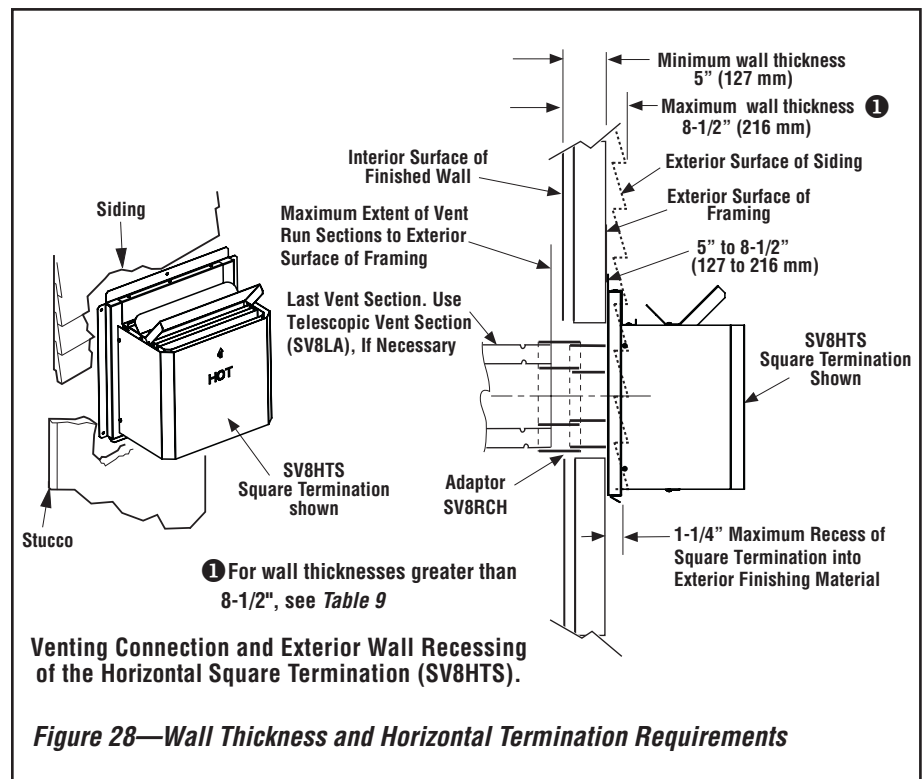

Figure 28—Wall Thickness and Horizontal Termination Requirements
If the terminus of the last section is not within this distance, use the **telescopic vent section SV8LA**, as the last vent section. For wall thicknesses greater than that shown in **Figure 28**, refer to **Table 9 on Page 19**. This table lists the additional venting components needed (in addition to the termination and adaptor) for a particular range of wall thicknesses.
M. Install the square termination (SV8HTS)—For the last step, from outside the exterior wall, slide the collars of the termination onto the adaptor (the outer over the outer and the inner inside the inner) until the termination seats against the exterior wall surface to which it will be attached. Orient the housing of the termination with the arrow pointed upwards. Secure the termination to the exterior wall. **The horizontal termination must not be recessed into the exterior wall or siding by more than the 1-1/4" (32 mm) as shown in Figure 28.**
Venting Components Required for Various Exterior Wall Thicknesses, when using Square Termination Kit (SV8HTS—see Figure 28)